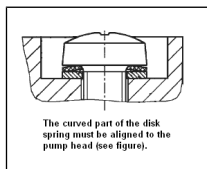

Fig.14: Orientation of the disk spring
**i** For the arrangement and orientation of the disk springs and washer of the screw, see Fig. 14.